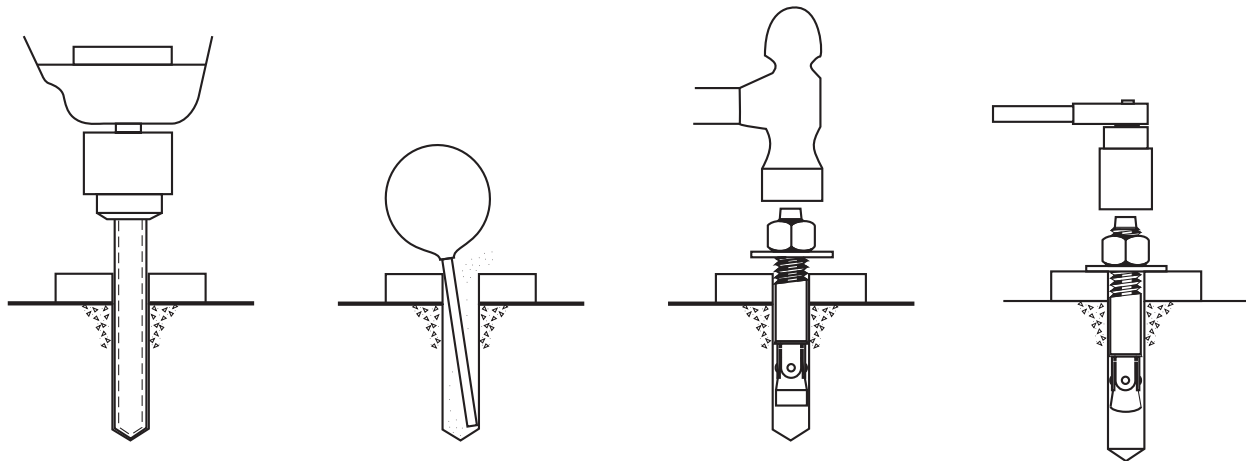

Fig. 8
Drill (10) 3/4" dia. holes in concrete floor using holes in column base plate as a guide. See Fig. 8 for hole depth, hole spacing, and edge distance requirements.